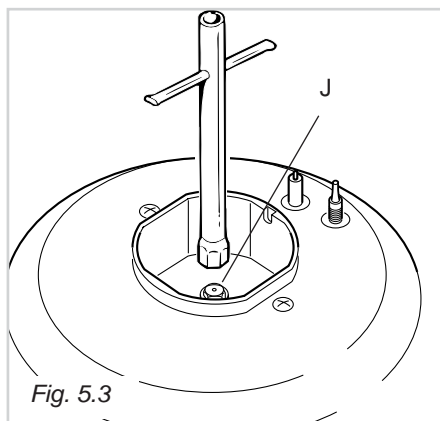

Fig. 5.3
- ✓ Using a wrench substitute the nozzle injectors "J" (Fig. 5.3 - 5.4) with those most suitable for the kind of gas for which it is to be used.